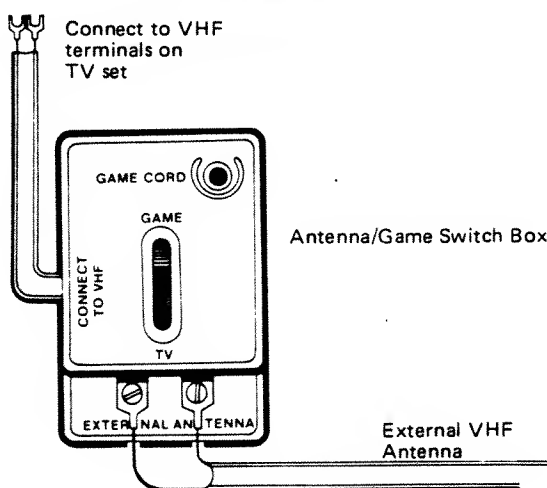

Figure 1
1. The Antenna/Game Switch Box (see Figure 1) is provided as a convenience to allow selection of either Odyssey2 or regular television viewing, without having to disturb antenna connections.